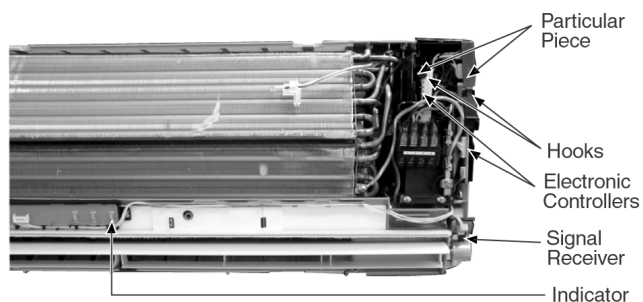

Fig. 3
1. The Electronic Controller, a Signal Receiver and an Indicator (Fig. 3) can be seen by the below steps:
- Release the 2 Particular Piece. (Fig. 3)
- Release the hooks that hold the Electronic Controller. (Fig. 3)